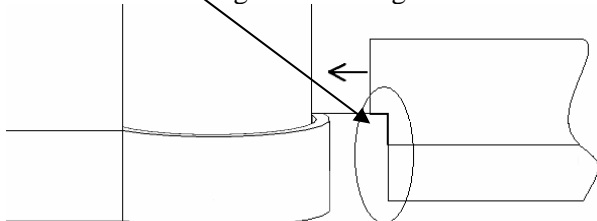

FIG 7
| 1. Clear Seal BS3002 (see fig7) | 5. Wall Profile BS1001     | 9. Stabilising Bar BS6011        |
2. Make a cut on one of the bottom corners of the seal to ensure a correct fit against the hinge bracket – see circled area in **Fig 7**